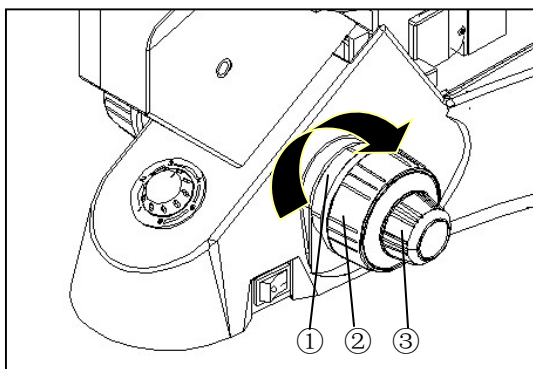

Fig.22
#### 4-1-3 Adjusting the Tension Adjustment Collar (Fig.22)
If the nosepiece descends on its own, or the specimen gets out of focus soon even you focus with the fine focus knob ③, It means the coarse focusing knob is too loose. You should screw the tension adjustment collar down at the direction of the arrowhead in fig.22 to increase the tension.